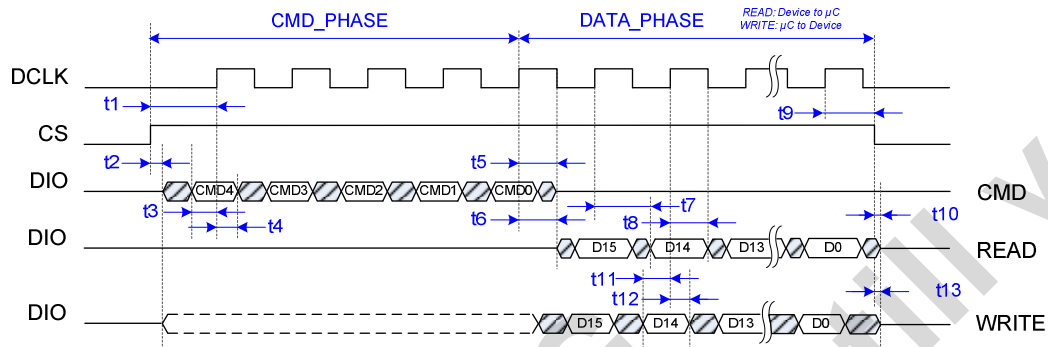
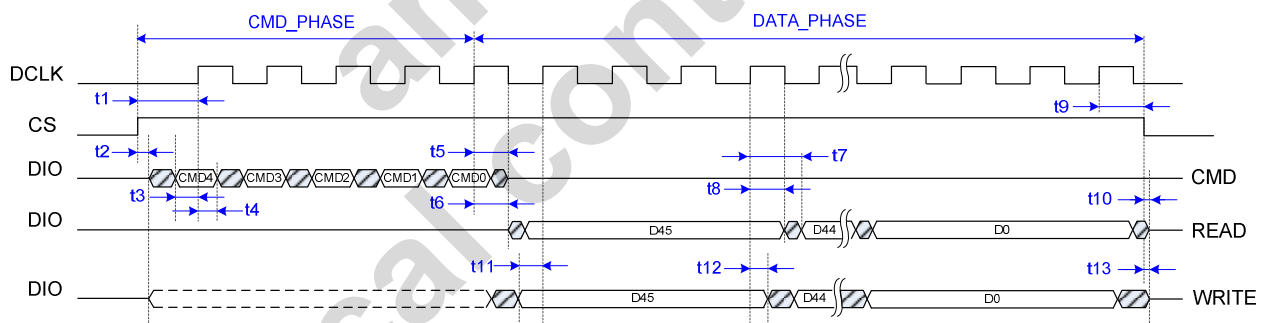

Figure 2: Normal Operating Mode
Figure 3: Extended Operating Mode
By default the peripheral pins CS, CLK, PDIO are used for the SSI interface. The device starts in *Normal Operating Mode* – one command-/data-bit needs one clock cycle – as shown in Figure 2.
Access to the OTP block is granted by sending a special command (EN_PROG) over the SSI Interface to the OTP block. This command sets the device in *Extended Operating Mode*, where the device is able to handle signals for special requirements. In this mode, the digital interface needs four clock cycles for one data-bit (see Figure 3).
The following table contains all timings related to Figure 2 and Figure 3.
- Four clock cycles represent the readback (analog voltage) of one fuse (pattern looks like Figure 3), starting with the MSB.